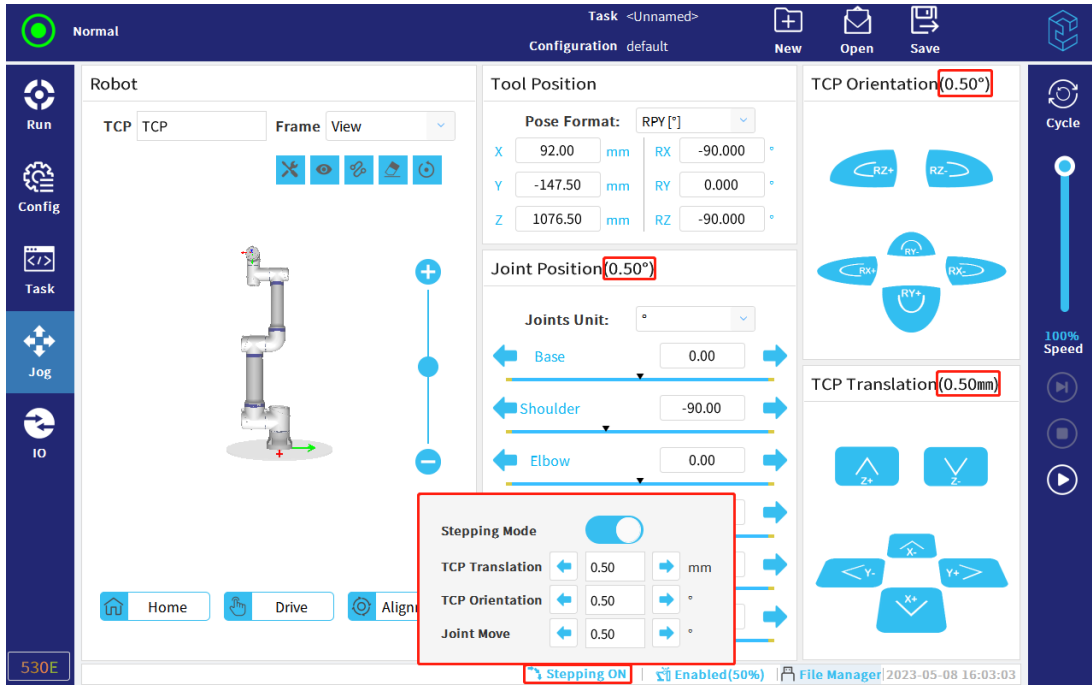

Figure 3-135 : Stepping mode
- Click the "Stepping" icon in the bottom of the menu to switch on or off the stepping mode, as shown in **Figure 3-135** .